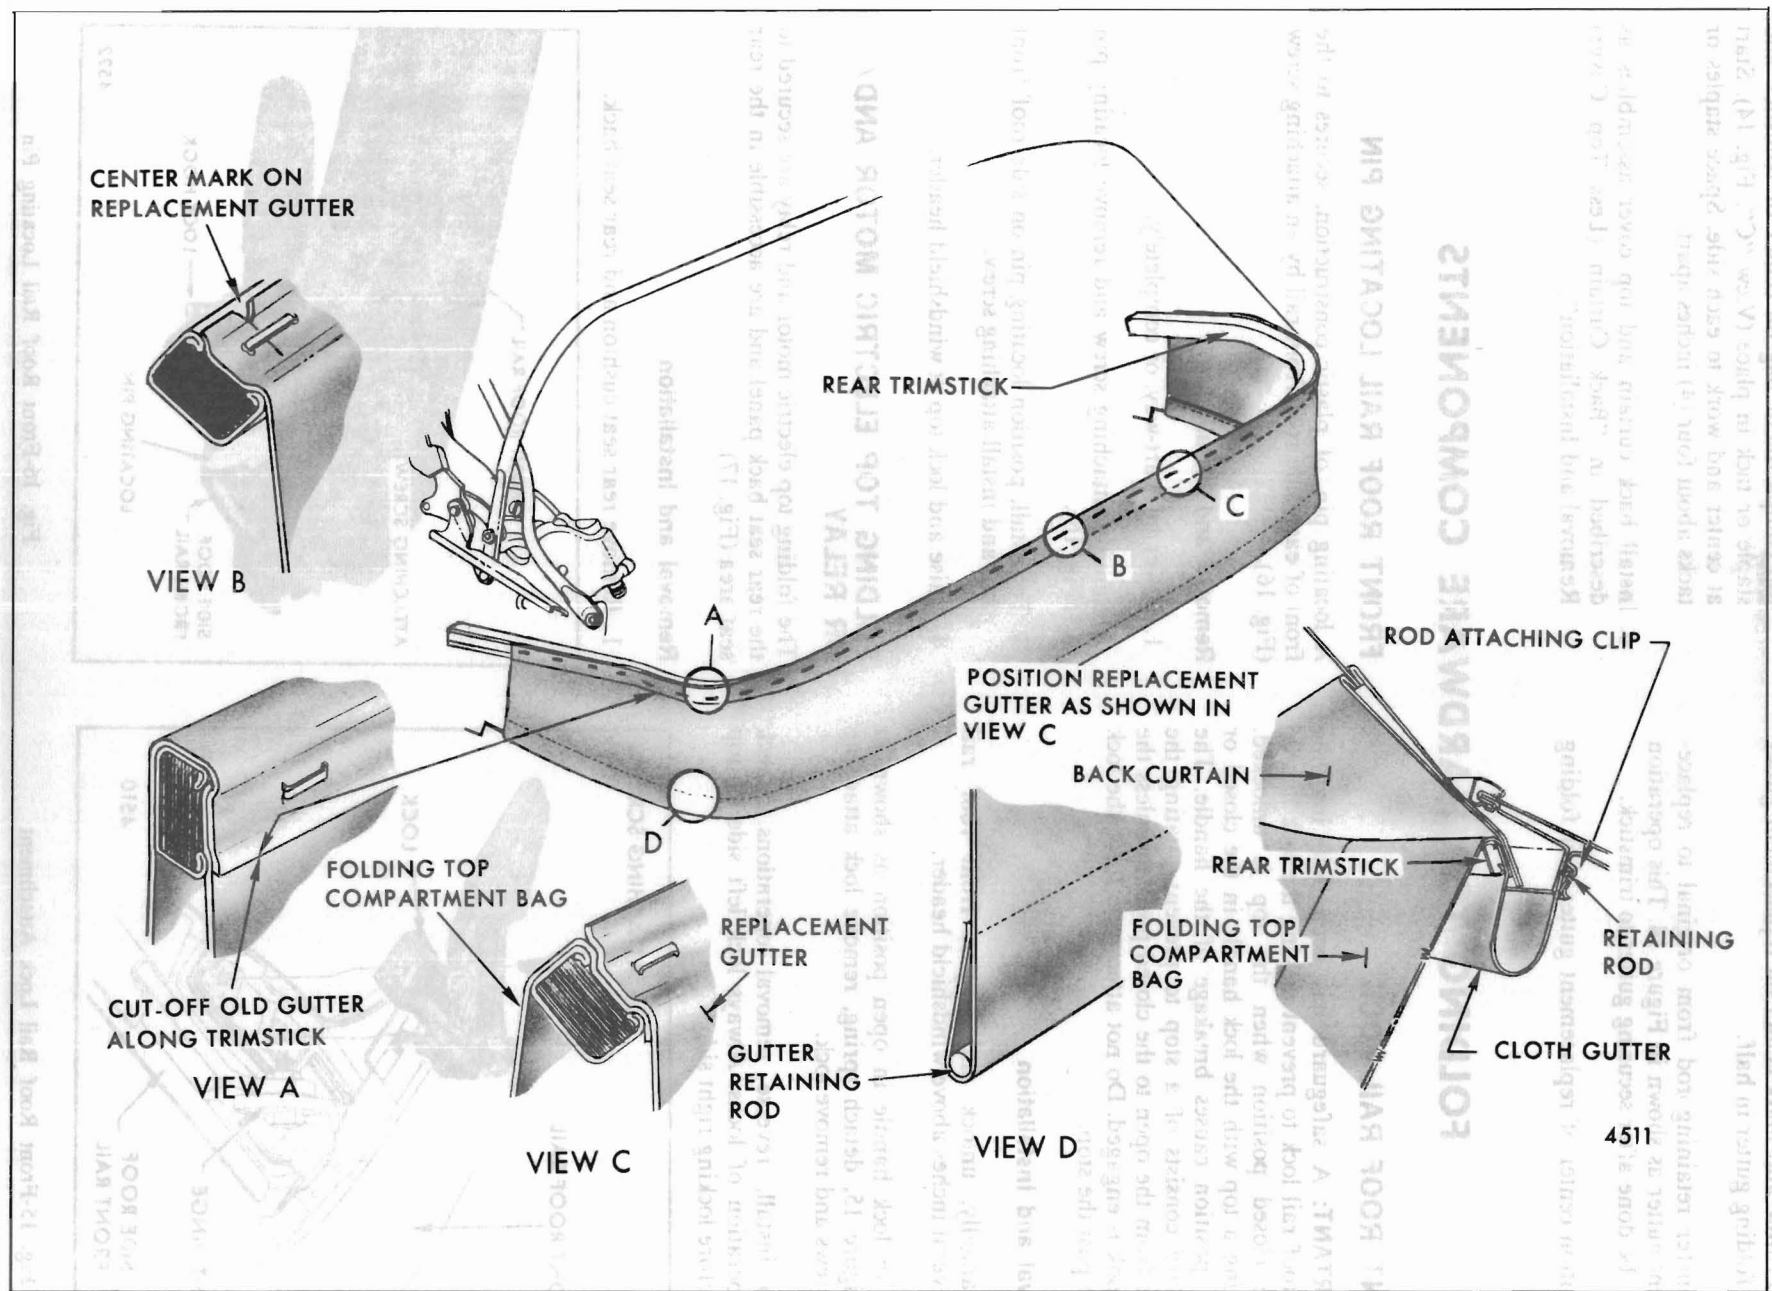

Fig. 14-Inward Folding Top Gutter Attachment
8. Position five (5) clips on gutter retaining rod. Position clips according to Figure 14 as follows: One clip on each side of rear compartment lid hinges and one at rear center.
- D. Secure gutter retaining rod and clips to body (Fig. 14).
The inward folding top rear gutter is constructed of convertible top trim material. The front of the gutter secures to the rear trimstick. The rear of the gutter secures to the body by means of a retaining rod and five (5) attaching clips (Fig. 14). The clips are spaced as follows: One clip on each side of each rear compartment lid hinge, and one clip at the rear center.
2. Remove original gutter by cutting along rear trimstick. Use care during original gutter removal not to cut folding top compartment bag (Fig. 14).
4. Transfer retaining rod from original to replacement gutter as shown in Figure 14. This operation can be done after securing gutter to trimstick.
top compartment bag on center of trimstick and staple or tack in place (View "C", Fig. 14). Start at center and work to each side. Space staples or tacks about four (4) inches apart.